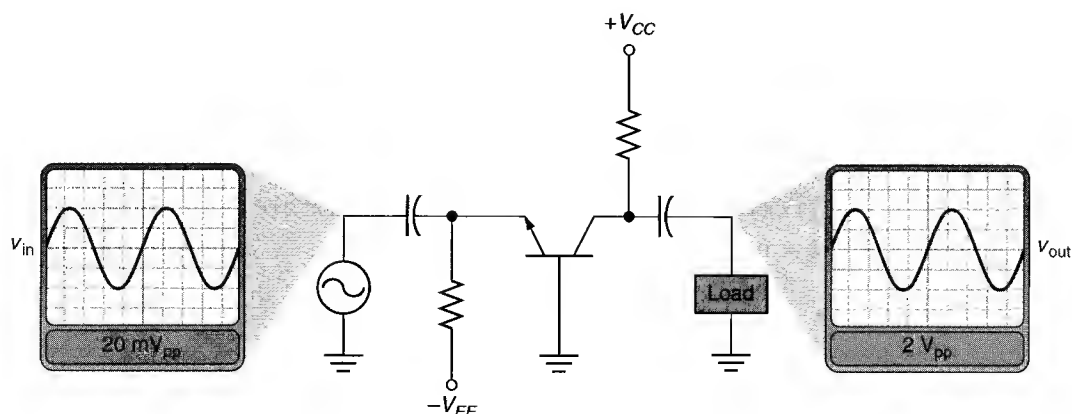

FIGURE 8.15 Common-base (CB) amplifier.
The *common-base (CB) amplifier* is the least often used BJT amplifier configuration. A typical CB amplifier is shown in Figure 8.15. As you can see, the input is applied to the *emitter* of the transistor, and the output is taken from the *collector*. The “bypass capacitor” (C_B) in the base circuit provides the ac ground (or common) at that terminal.
The simplest way to determine the configuration of a given BJT amplifier is to use this technique: *Identify the input and output terminals. The third terminal is the common one.* For example, look at the circuit shown in Figure 8.15. The input is applied to the *emitter*, and the output is taken from the *collector*. The third terminal is the *base*. Therefore, the circuit is a *common-base amplifier*. The other two BJT amplifier configurations can be identified in the same fashion.